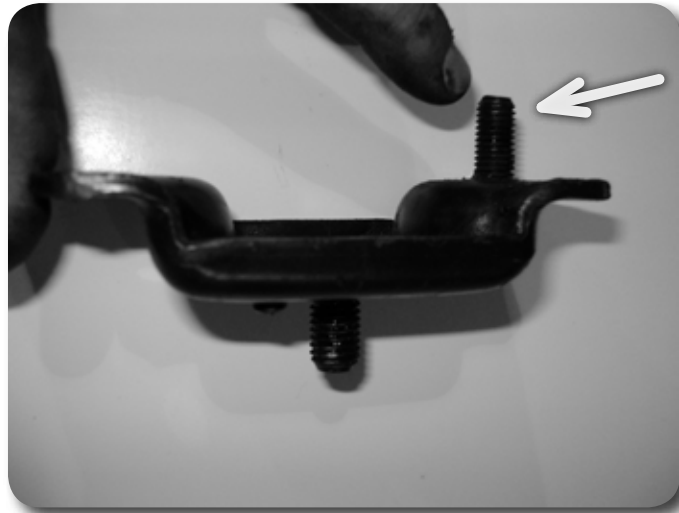

FIGURE 3
10. The outside stud on the mounting plate where the nut was just removed needs to be punched out. Figure 3. This can be removed by setting the plate across the jaws of a vice and hitting the stud through with a hammer. This stud will be replaced with the hardware in the kit.